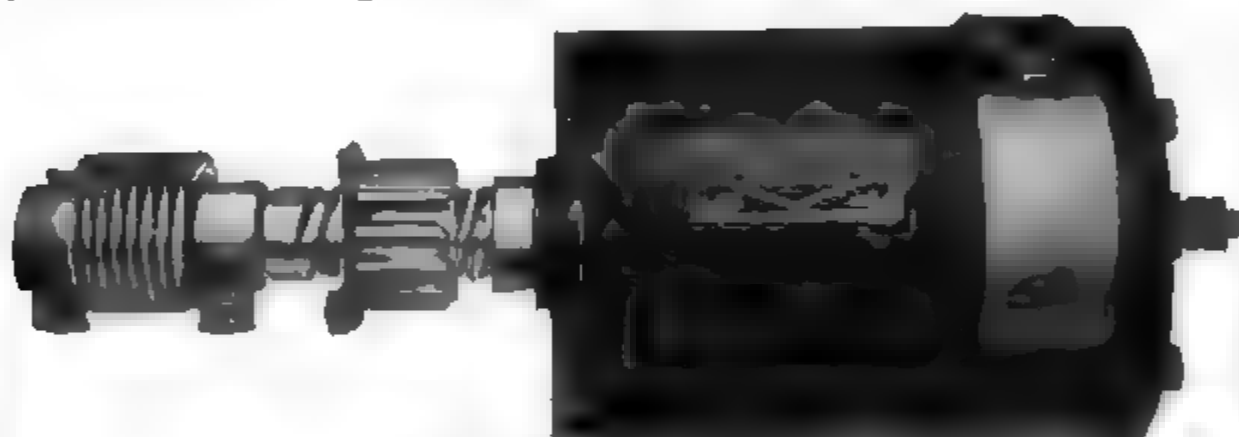

Fig. 328 Spallert-SU Starting Motor
**Starting Motor.** The starting motor is of the series-wound type and is similar in design to the generator. It is supplied with a Bendix drive as shown in Fig. 328.